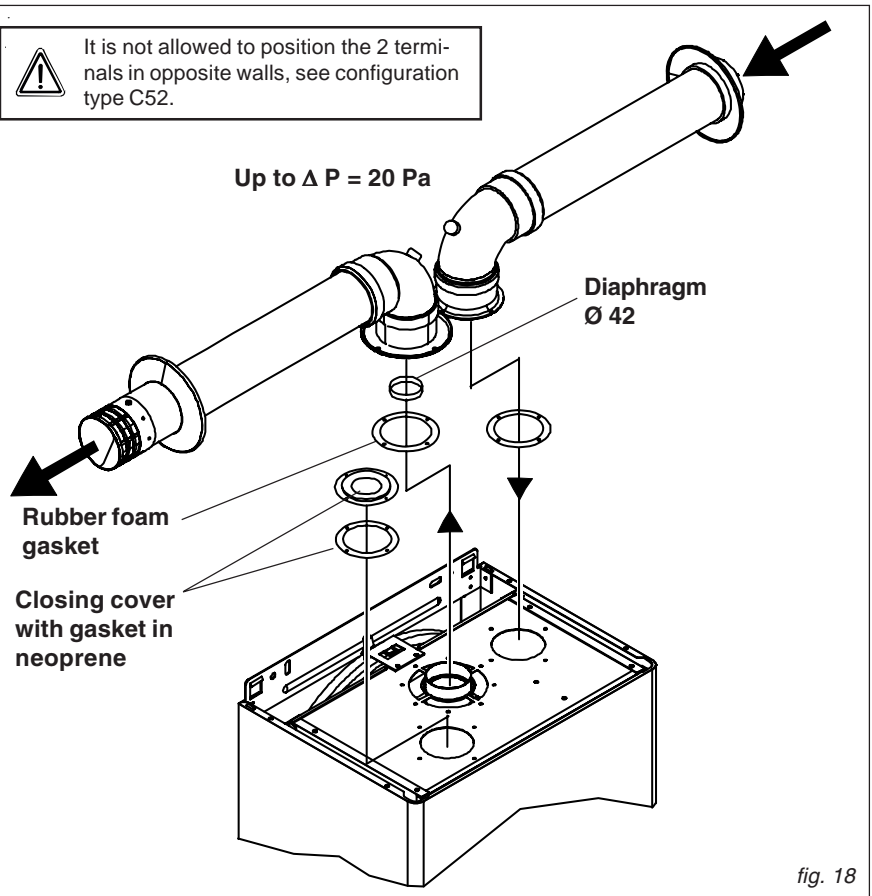

fig. 18
For all installations with a pressure loss of the ducts not exceeding 20 Pa, the diaphragm supplied with the boiler must be installed inside the flue gas outlet pipe (see fig. 18).
**WARNING:** Per For the smoke outlet configuration (see fig. 18) it is necessary to close the hole of air entry "1" with the provided for closing cover and the gasket delivered with the boiler. Note: in case the air aspiration will be effected by the hole "1", close the hole "2".